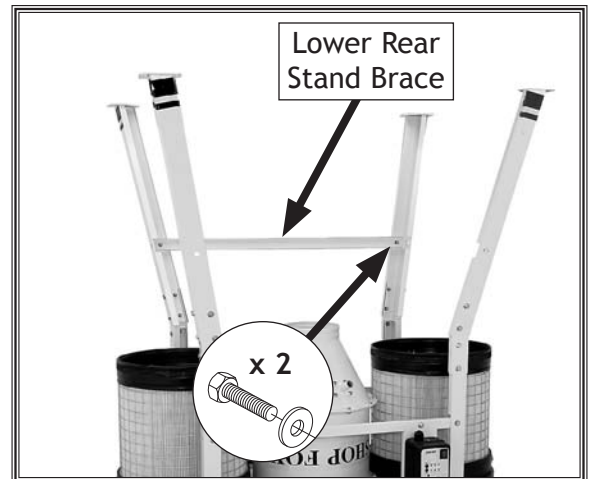

Figure 17. Lower rear stand brace attached to the lower stand legs.
- Attach the lower rear stand brace to two of the lower stand legs with (2) $\frac{3}{8}$ "-16 x $\frac{3}{4}$ " hex bolts and (2) $\frac{3}{8}$ " flat washers, as shown in **Figure 17**.